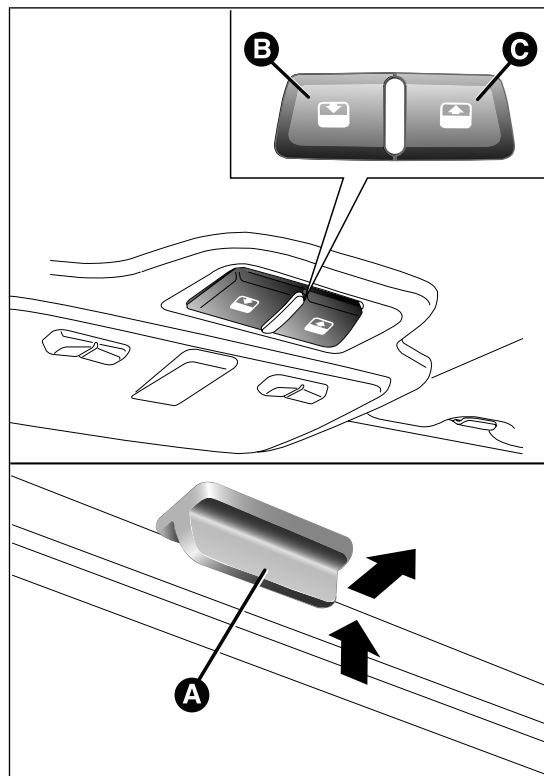

fig. 44
The large electric sun roof comprises two glass panels; the front one is mobile and the rear one fixed. These are equipped with two sun blinds (front and rear) that can be moved manually. With the sun roof closed, the blinds can be placed in any position. To open the blinds, grip handle A fig. 44, following the direction indicated by the arrow until the desired position is reached. To close them, carry out the procedure in reverse.
The sun roof can be operated only with the ignition key turned to MAR. The controls B and C fig. 44 on the front roof light trim operate the roof opening/closing functions.
After opening in spoiler position, press button C fig. 44 for more than half a second to bring the roof automatically to fully open position. The automatic roof movement can be stopped in any position by pressing a button (B or C) again.
Press button B from the fully open position fig. 44. If the button is pressed for more than half a second, the roof will automatically move to spoiler position.
From the spoiler position, press button B fig. 44 again to reach the fully closed position.
- ☐ press button B fig. 44 in closing position;